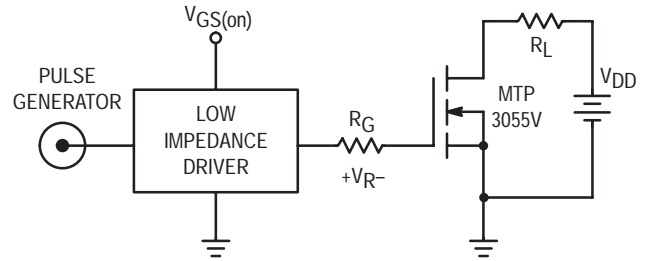
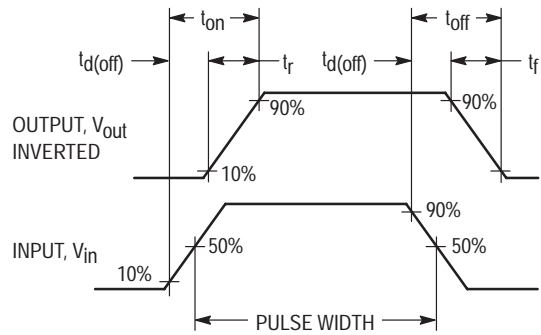

Figure 3-5. Switching Test Circuit
Figure 3-6. Switching Waveforms
**Resistive Switching ( $t_{d(on)}$ ,  $t_r$ ,  $t_{d(off)}$ ,  $t_f$ )**—MOSFET switching speeds are very fast, relative to comparably sized bipolar transistors. They are tested and measured using a resistive switching test circuit as shown in Figure 3-5. A typical switching waveform showing parameter measurement points is shown in Figure 3-6.